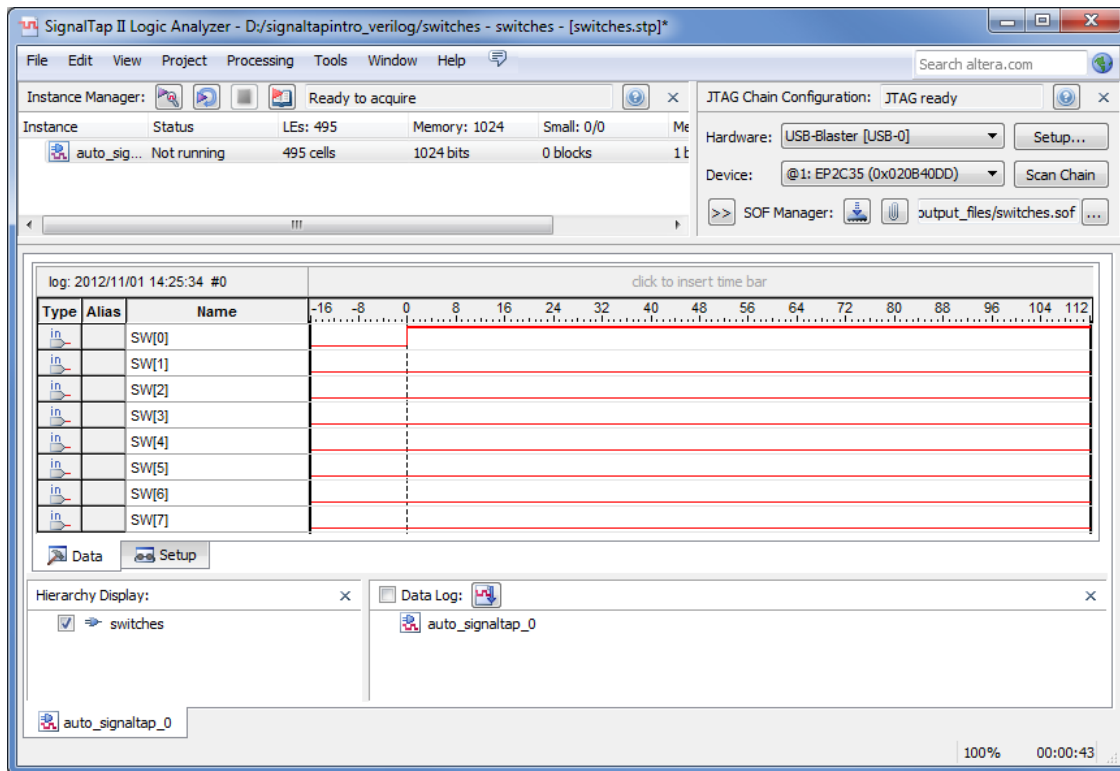

Figure 13. Graphical display of values after trigger condition is met.
3. Now, to observe the trigger feature of the Logic Analyzer, set Switch 0 on the DE-series board to high. The data window of the SignalTap II window should display the image in Figure 13. Note that this window shows the data levels of the 8 nodes being tapped before the trigger condition was met and also after. To see this, flip on any of the switches from 0-7 and then click Run Analysis again. When switch 0 is set to high again, you will see the values of the switches displayed on the SignalTap II Logic Analyzer.